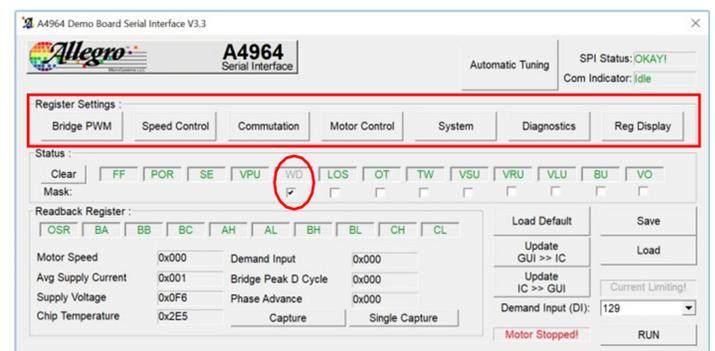
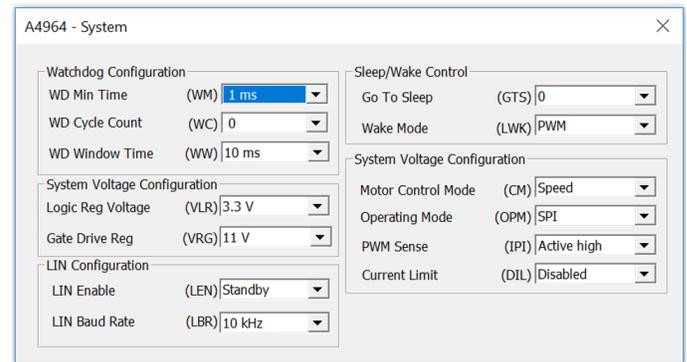

Figure 4: GUI – Main Window
Figure 10: GUI – System Section
Allegro also provides a A4964 serial control GUI, which can be used to operate the evaluation board through the USB cable. The GUI is a standalone executable file, named A4964SerialV $_{xpx}$.exe, where $_{xpx}$ is the version number. The latest versions can be accessed on the Allegro support website at registration.allegromicro.com. This GUI can be run directly on a Windows-based PC without installation. A screenshot of the GUI when running is shown in Figure 4.
The main window of the GUI is shown in Figure 4. Various settings such as type of control, fault detection, etc., can be configured in the GUI. Settings are grouped based on their functionality in seven pop-up windows marked with red rectangle in Figure 4. The summary of each configuration option is provided in this user manual; however, if a detailed explanation of any parameter is required, it can be easily found in the datasheet by searching the relevant title.
For example, if V_{MIT} is set to 200 mV and V_{ISC} to 1/16, then the maximum allowed voltage across the sense resistor is equal to 12.5 mV. The current limit can be disabled by clicking on the System window and disabling DIL as shown in Figure 10.
The minimum and maximum achievable speed can be set by the underspeed (SL) and overspeed (SH) threshold. If the motor speed is below the underspeed threshold or above the overspeed threshold, a loss of synchronization occurs, the fault LOS (shown in the content of status register in Figure 4) will flag, and the
When watchdog is enabled, the input waveform to the WDOG terminal must follow a certain configuration, which is explained in the datasheet. If a watchdog failure occurs, the MRSTn terminal output, which is an active-low signal, can be used to disable or reset the microcontroller. A watchdog failure also disables all the switches and can put the device to sleep depending on the choice of settings. If the watchdog feature is not used, it should be disabled in order to allow correct operation of the A4964 device. This can be done by masking the WD bit in the main menu of the GUI shown in Figure 4.
There are two ways to set the demand input (speed reference) for the A4964 in the closed speed control mode. The first method is to define the required demand input in the GUI as shown in Figure 4. In this case, serial interface communication is used and therefore the “Operating Mode” OPM shown in Figure 10 must be set to SPI. The other method is to apply duty cycle to the LIN input. In this case, the OPM must be set to PWM (standalone mode). More information about the LIN interface can be found in the datasheet.
When operating in closed-loop current control mode, the current limit bit, DIL, must be enabled. In this case, the “Current Limiting!” status in the main window of the GUI, shown in Figure 4, will be shown in red if the current hasn’t reached to the defined limit. Otherwise, it will be shown in green. In closed-loop speed control or voltage control mode, if the current limit is enabled, the “Current Limiting!” status will be red if the current has reached the limit and it will be gray if the current is not at the limit.
The “Clear” button will remove all the previous fault condition shown in the “Status” section of Figure 4. If “Clear” is pressed and there is no fault in the system, the content of the status register should be shown in **green**. If the fault still exists, the corresponding fault will be shown in **red**.